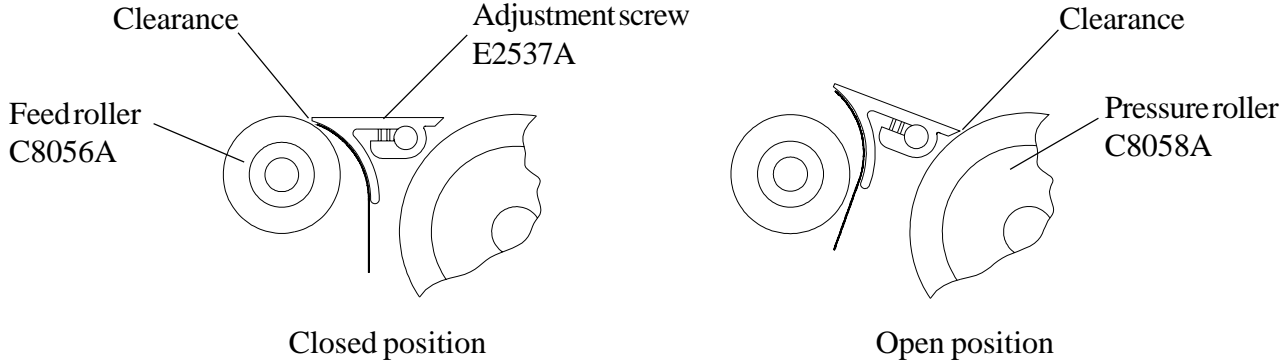

FIG. 2
The diverters should be adjusted to meet the conditions shown in Fig.2 above. A clearance of .005" (.13mm) must exist between the leading tip of diverter and feed roller when closed, and between trailing tip and pressure roller when open. All diverters must be in line on the shaft.
4. Slide the solenoid bracket back (so opening the diverters) until it just touches the paper at the tips in the closed position (see Fig. 2 above).
6. Open the diverters to check clearance in the open position (see Fig. 2 above).